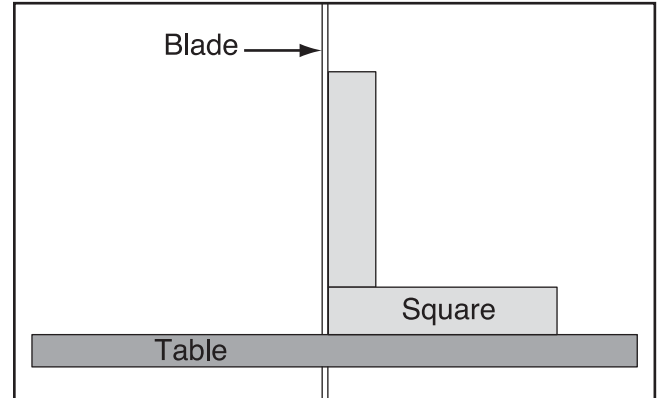

Figure 16. Squaring table to the blade.
- Lower the table and place a machinist's square flat on the table and against the side of the blade, as illustrated in **Figure 16**.